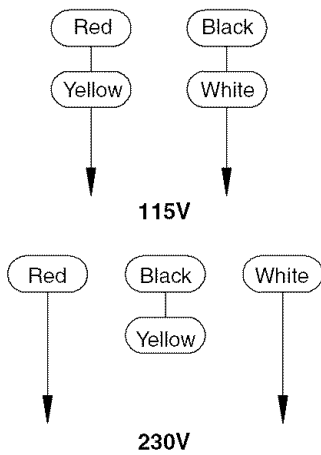

Figure 3 - Saw Motor Wiring Diagram
- Rewire saw motor to 230 volts (See Figure 3).